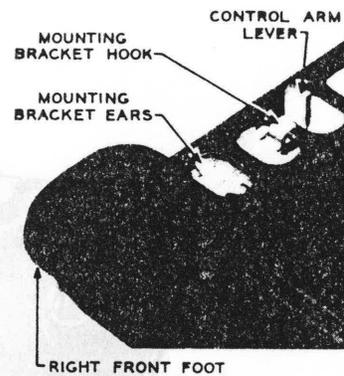

Fig. 17 - Mounting Bracket
- (1) Remove left gong.
- (2) Place mounting bracket on set base. Be sure hook and ears are in place (Fig. 17) before securing mounting screw.